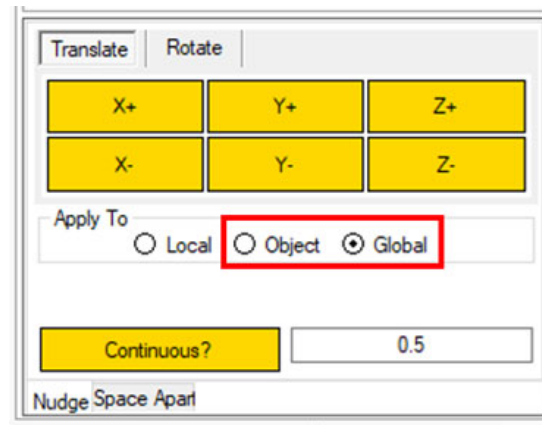

Figure 236: Nudge about Global Pose
3. Change the "Apply To" setting from "Object" to "Global." See Figure 236 on page 227.